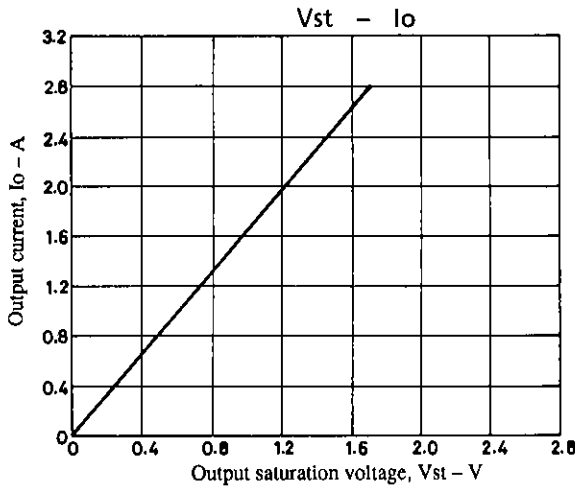

Fig. 8
The characteristic diagrams (typ) for I_{OH} and V_{st} , and I_{OH} and V_{df} are given in Figs. 8 and 9.
Referring to Figs. 8 and 9, each value for Vst and Vdf is determined by expression (10) as follows :